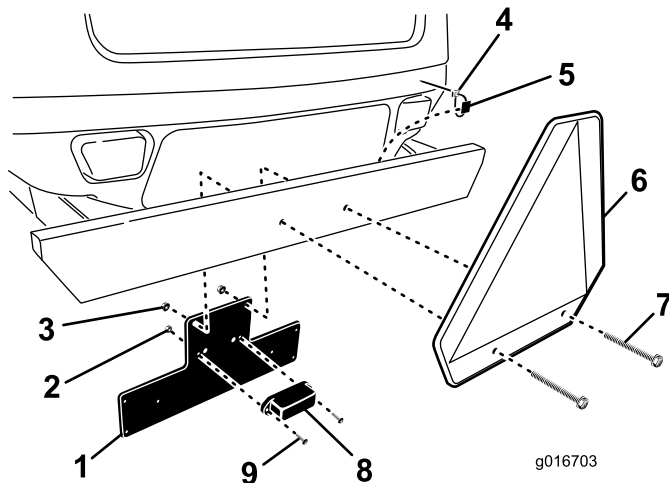

Figure 1
2. Mount the plate light to the registration plate with (2) #10 x 5/8 inch screws and #10 lock nuts (Figure 1). Do not over tighten. Make sure the lens points downward and the wires are inserted through the hole in the plate mount.
4. Using (2) 1/4 x 2-3/4 inch screws and 1/4 inch nuts, mount the slow moving vehicle sign (if required) and the registration plate to the bumper (Figure 1).
6. Secure the wires to bumper with the cable tie mounting pads and cable ties (Figure 1).
3. Remove the (2) screws and nuts securing the slow moving vehicle sign to the bumper (Figure 1).